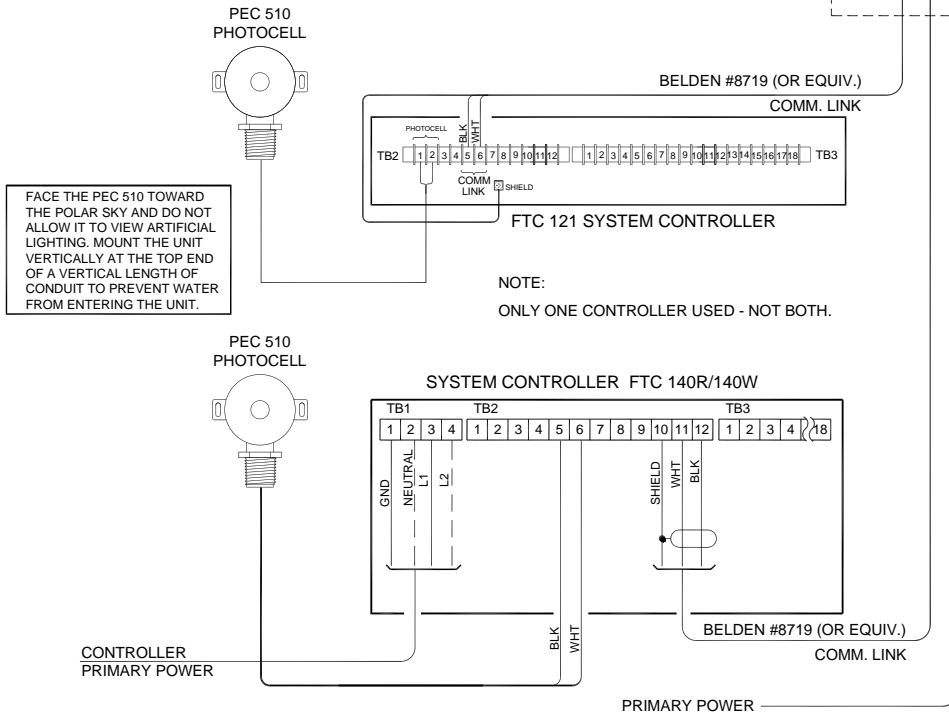

Figure 2-7 – Single-Phase Installation Wiring for FTB 205/208
- Figure 2-7 – Single-Phase Installation Wiring for FTB 205 or 208